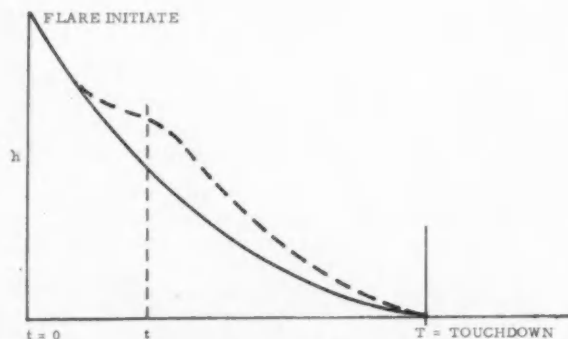

Fig. 7 — Gust perturbation and correction.
3. If during flare a wind condition perturbs the aircraft from the controlled path (Fig. 7), the  $\dot{h}$  and  $\ddot{h}$  predictors command a correction to satisfy the terminal conditions, rather than a return to the